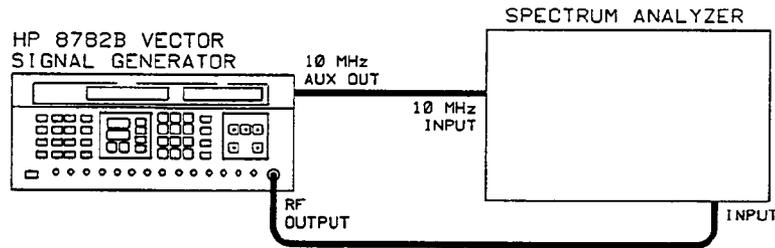

Figure 5-24. DC Residual Test Setup
1. Connect the generator RF output to the spectrum analyzer as shown in Figure 5-24.